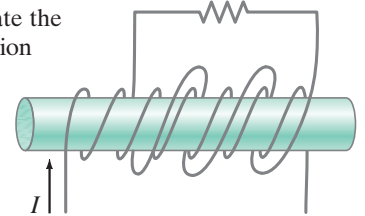

FIGURE 21–65
78. A coil with 190 turns, a radius of 5.0 cm, and a resistance of 12 Ω surrounds a solenoid with 230 turns/cm and a radius of 4.5 cm (Fig. 21–65). The current in the solenoid changes at a constant rate from 0 to 2.0 A in 0.10 s. Calculate the magnitude and direction of the induced current in the outer coil.